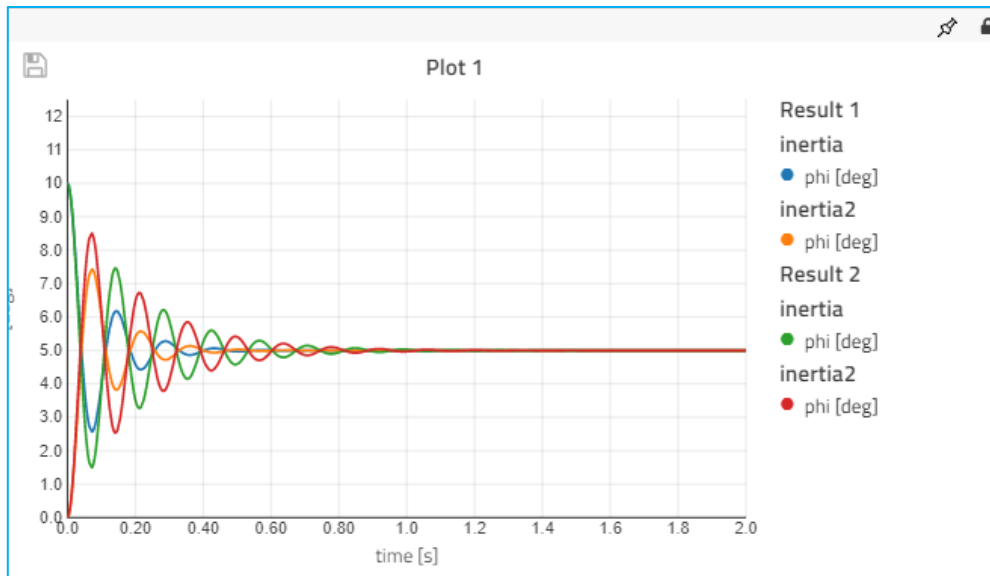

Figure 18 Re-simulate with parameter change
16. To study the impact of a certain parameter on the system behavior, simply change a parameter in the **Properties** tab of the *Details panel* and hit the simulation button again; the plot will be updated with the new results. In Figure 18, the damping coefficient d for **springDamper** has been changed to 0.5 instead.